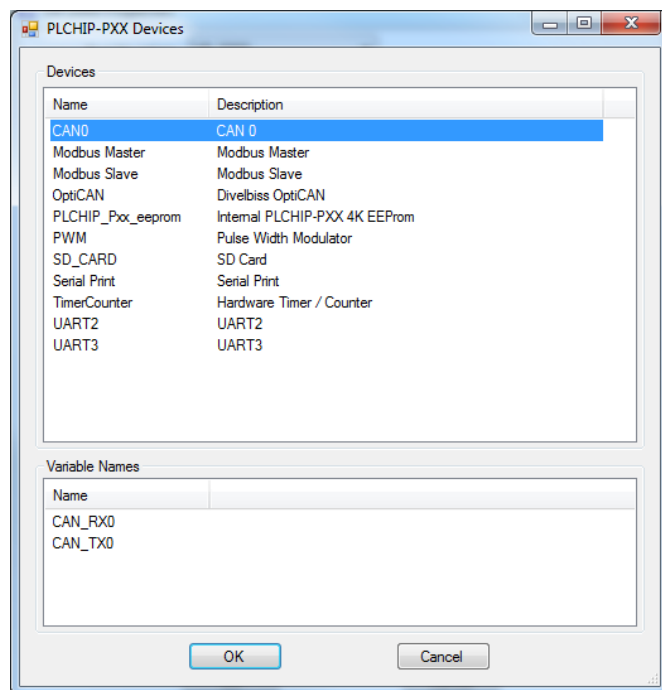

Figure 2-13 - Install CAN0 Device
4. Locate **CAN0** in the *Devices* pane. Click to select (highlight) **UART3**. Refer to Figure 2-13. Click **OK**.